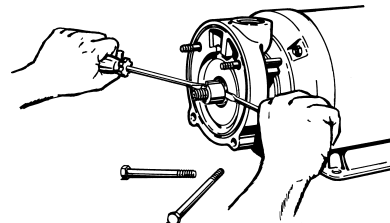

Figure 4-9
- Holding the screwdrivers at approximately 3 o'clock and 9 o'clock, push the handles in toward the motor body, using the motor bracket for leverage. Refer to Figure 4-9. This procedure usually does not require excessive force. Care should be taken not to damage the hub or motor shaft.